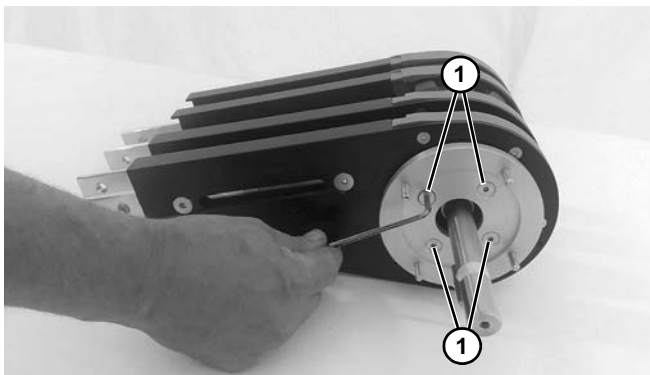

Figure 117
4. Remove four screws (**Figure 117, item 1**) on side of drive spindle.